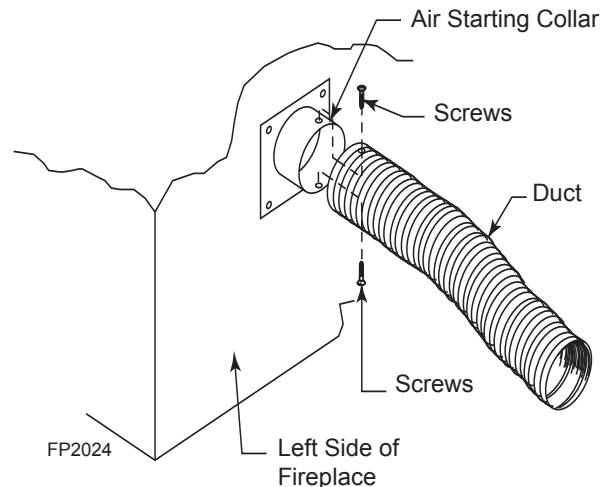

**Figure 13 -**
4. Select and cut a piece of duct long enough to attach to the fireplace and stick out at least 3" beyond the face of the wall to which the OAC-4 inlet air vent will be attached. Cut duct with a standard pocket knife. *Figure 13*